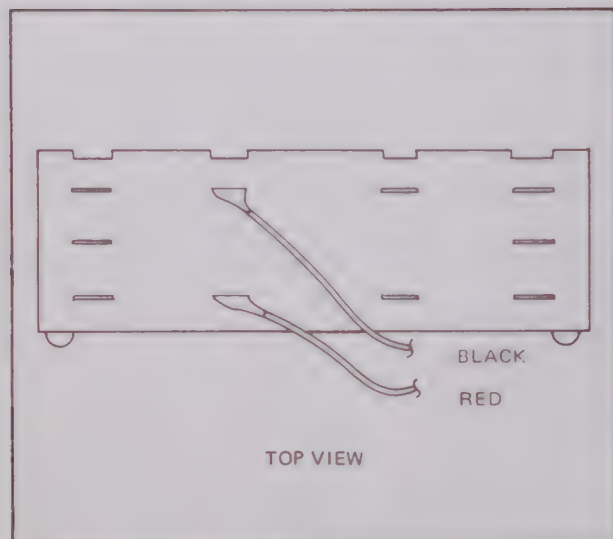

Figure 6-1. TERMINAL BLOCK
- e. Connect red and black wires to grey terminal block mounted under grommets on front of bulkhead (see Figure 6-1).